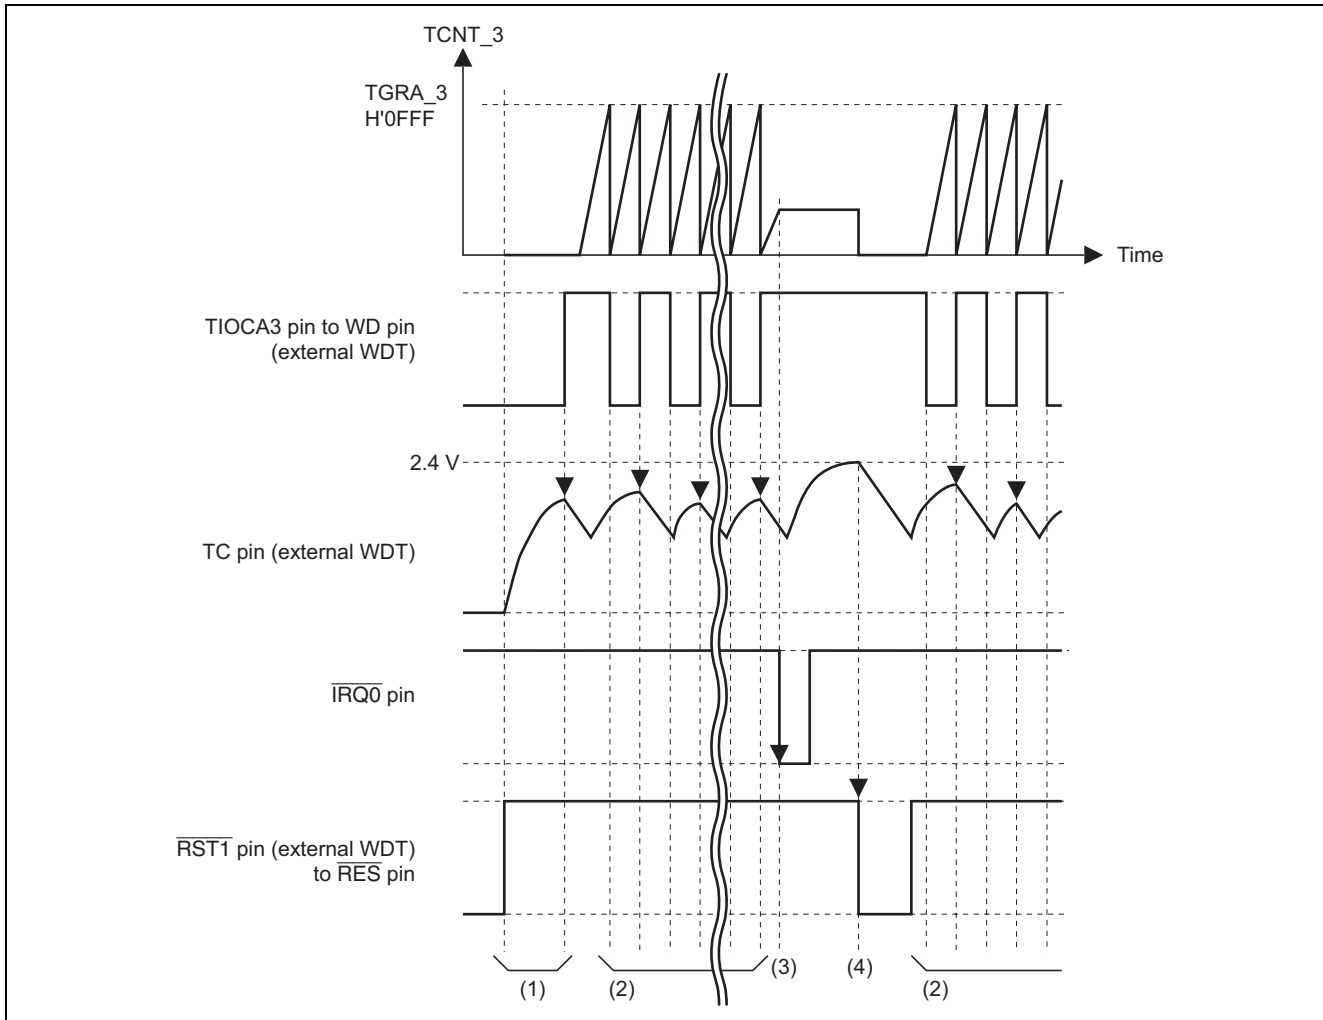

Figure 2 Operation Timing
Figure 2 shows the timing for clearing the WDT by using the TPU. To explain (1) to (4) in figure 2, detailed descriptions are given in tables 2 and 3.